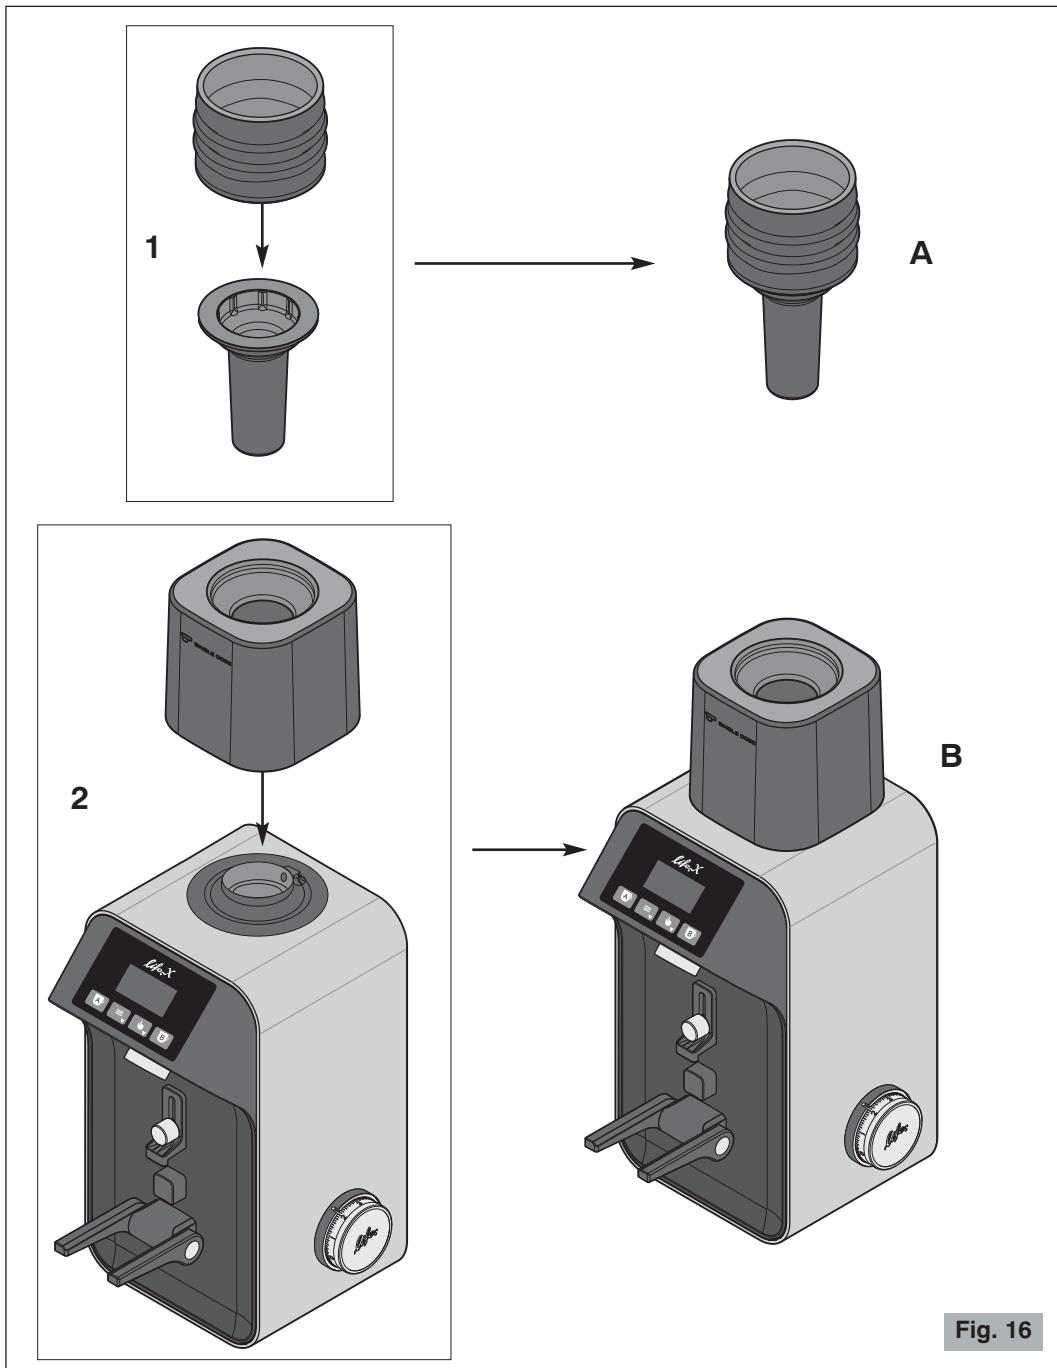

Fig. 16
5. Insert the bellows into the pusher (point 1 of Fig. 16).
6. Place the kit support in its seat (point 2 of Fig. 16).
- 4** Insert the bellows-pusher assembly (A Fig. 16) into the opening of the support, letting it rest on the coffee beans (Fig. 16a).
- ⚠ Never operate without the hopper fixed by the appropriate screw (6a, Detail A Fig. 3) or without having positioned the support of the single dosing kit (point 2 Fig. 16).**